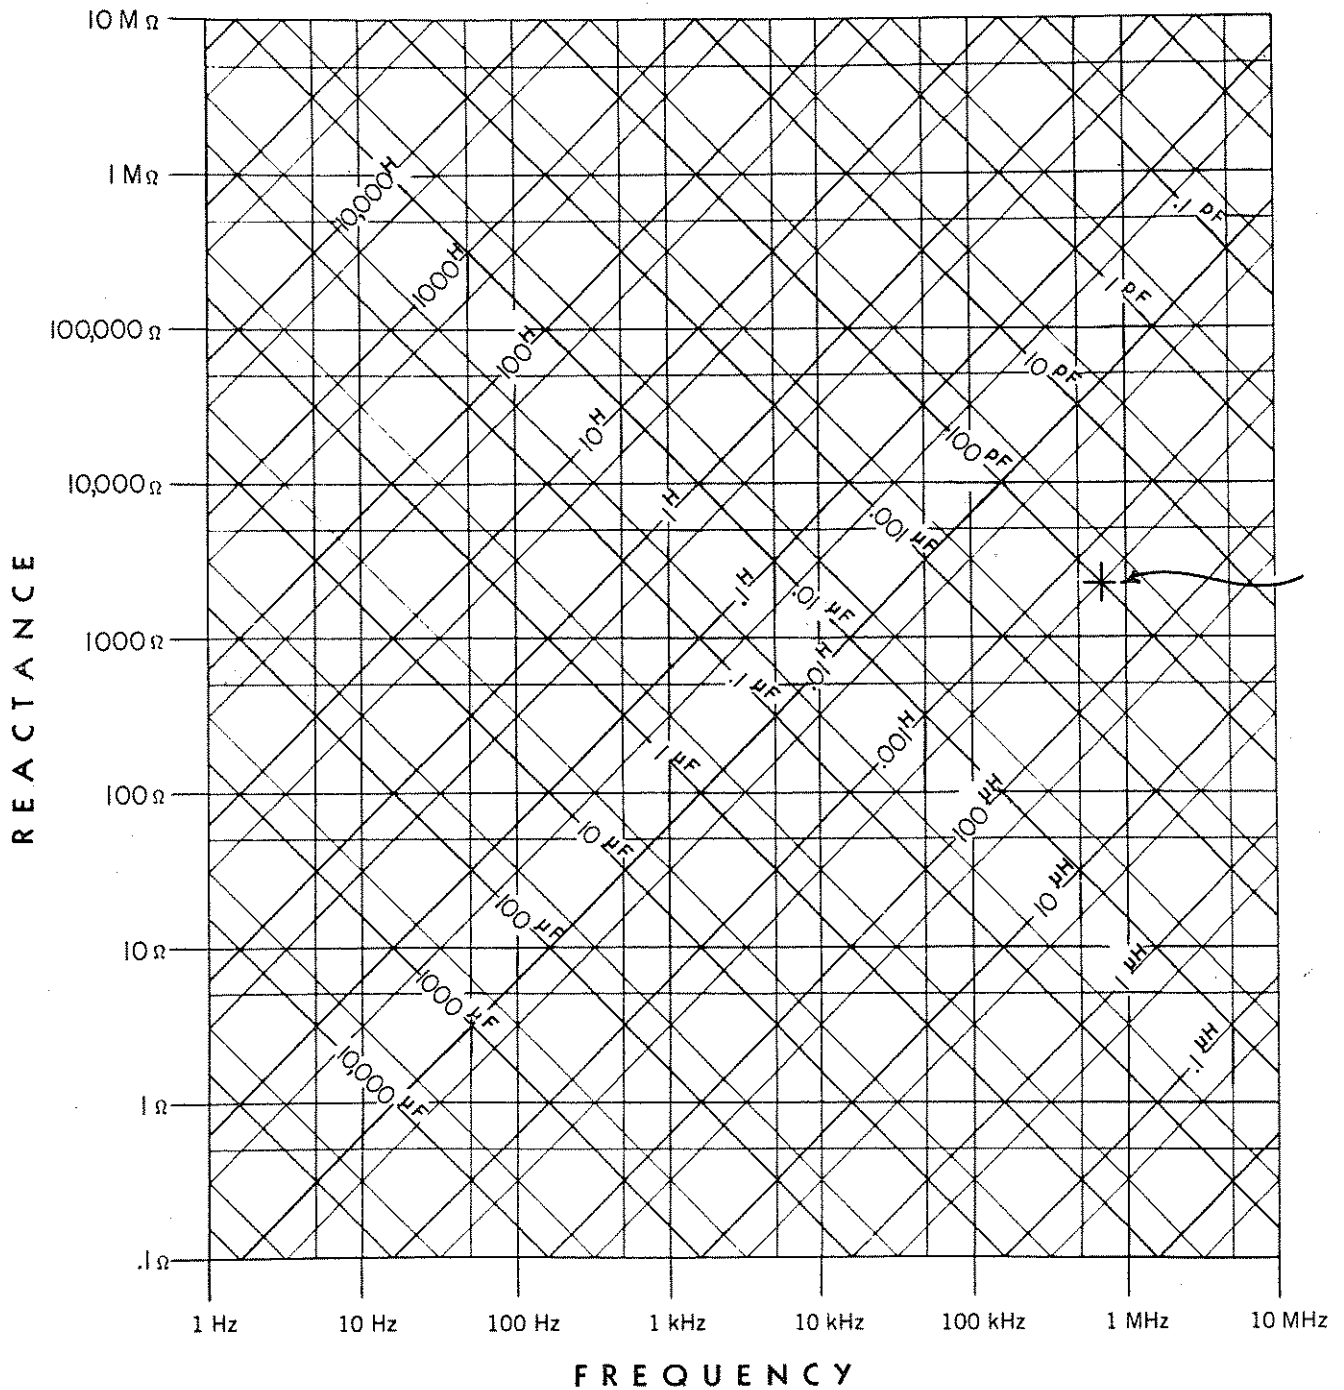
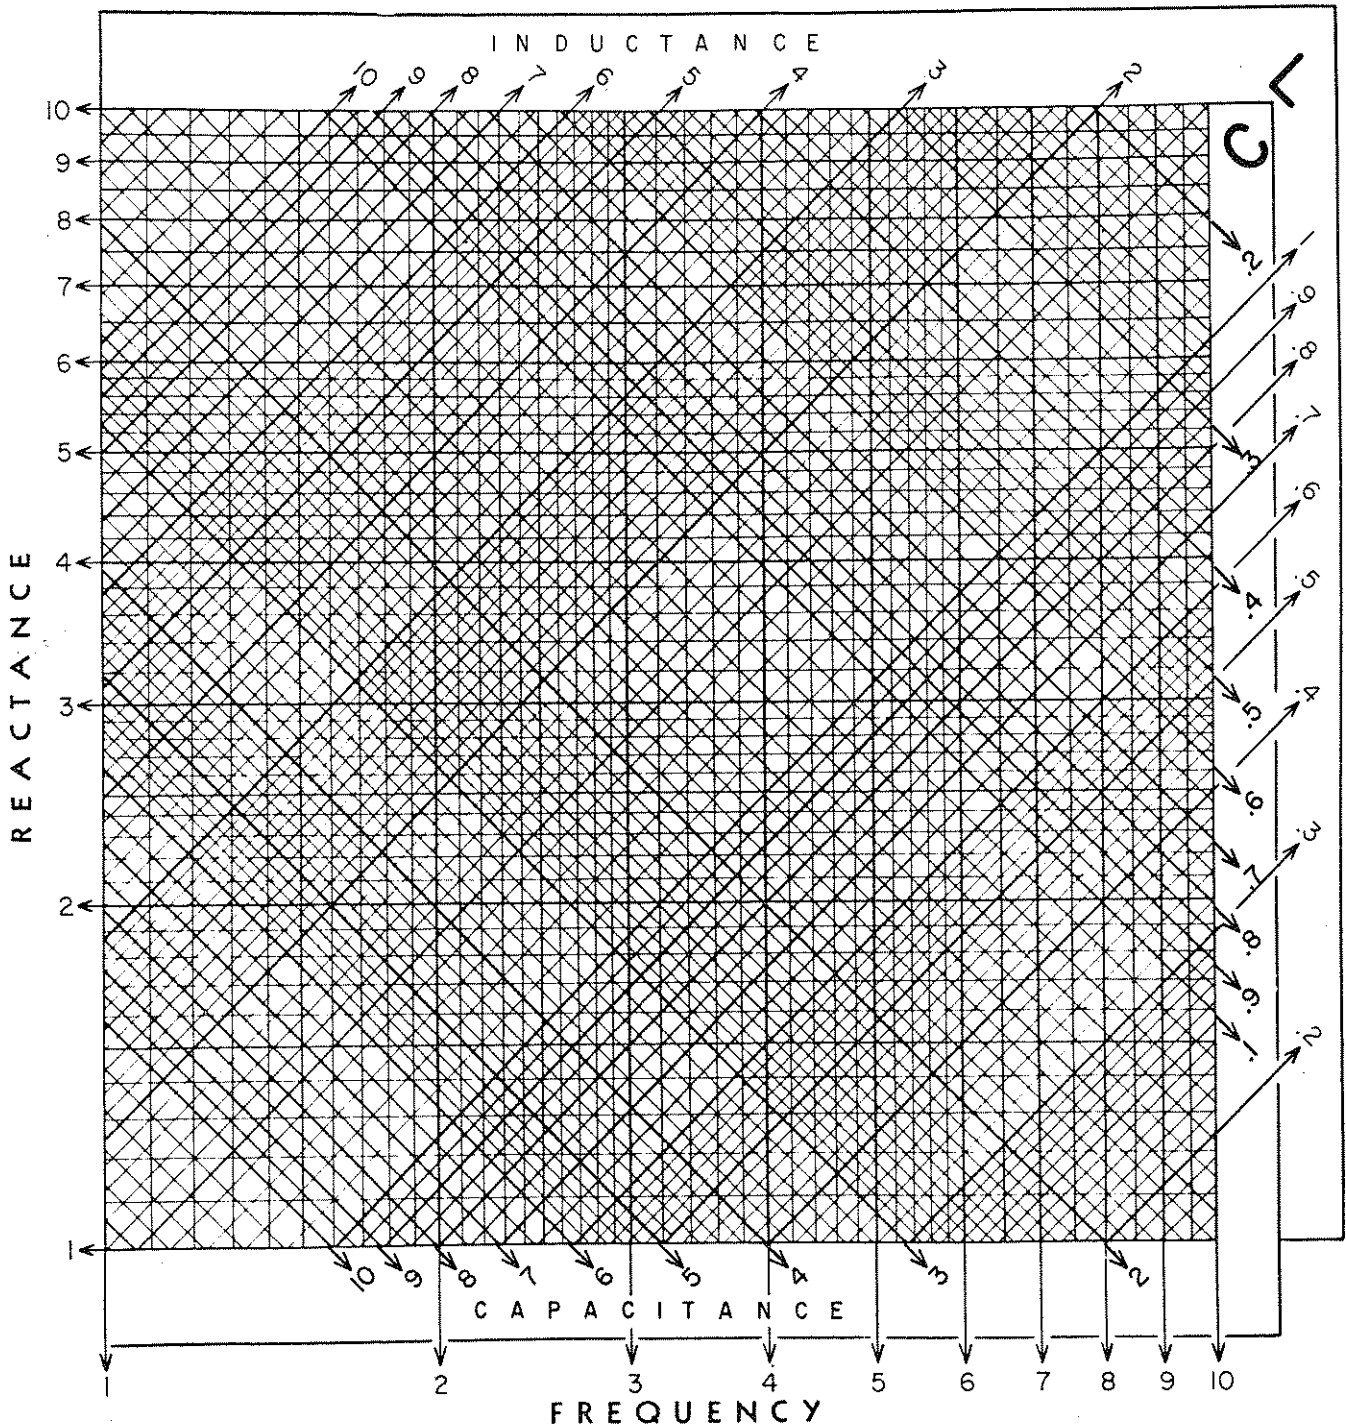

FIGURE 3-8
FIGURE 3-9
Figure 3-8 is the complete chart, used for rough calculations. Figure 3-9, which is a single decade of Figure 3-8 enlarged approximately 7 times, is used where two or three significant figures are to be determined.
Always obtain approximate value from Figure 3-8 before using Figure 3-9
**Example:** The point indicated in Figure 3-8 corresponds to a frequency of about 700 kHz and an inductance of 500  $\mu\text{H}$ , or a capacitance of 100 pF, giving in either case a reactance of about 2000 ohms. The resonant frequency of a circuit containing these values of inductance and capacitance is, of course, 700 kHz, approximately.
## USE OF FIGURE 3-9
Figure 3-9 gives additional precision but does not place the decimal point, which must be located from a preliminary
entry on Figure 3-8. Since the chart necessarily requires two logarithmic decades for inductance and capacitance for every single decade of frequency and reactance, unless the correct decade for L and C is chosen, the calculated values of reactance and frequency will be in error by a factor of 3.16.